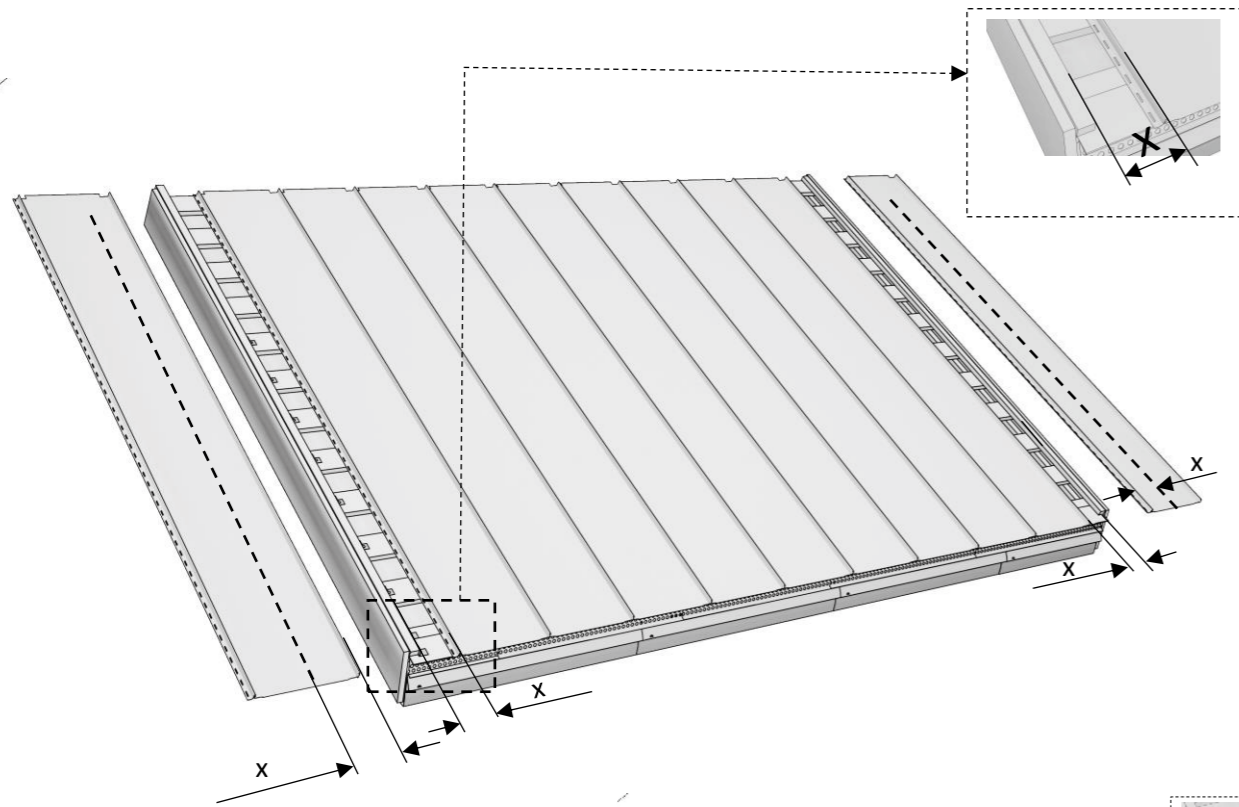

Fig. 11a
- Where the slope has a different width than the exact multiplication of panels' width, a decision whether the edge panels are to be symmetrical has to be made. In this case, we divide the width of the incomplete panel into two edge panels and prepare them for installation by cutting (Fig. 11a).